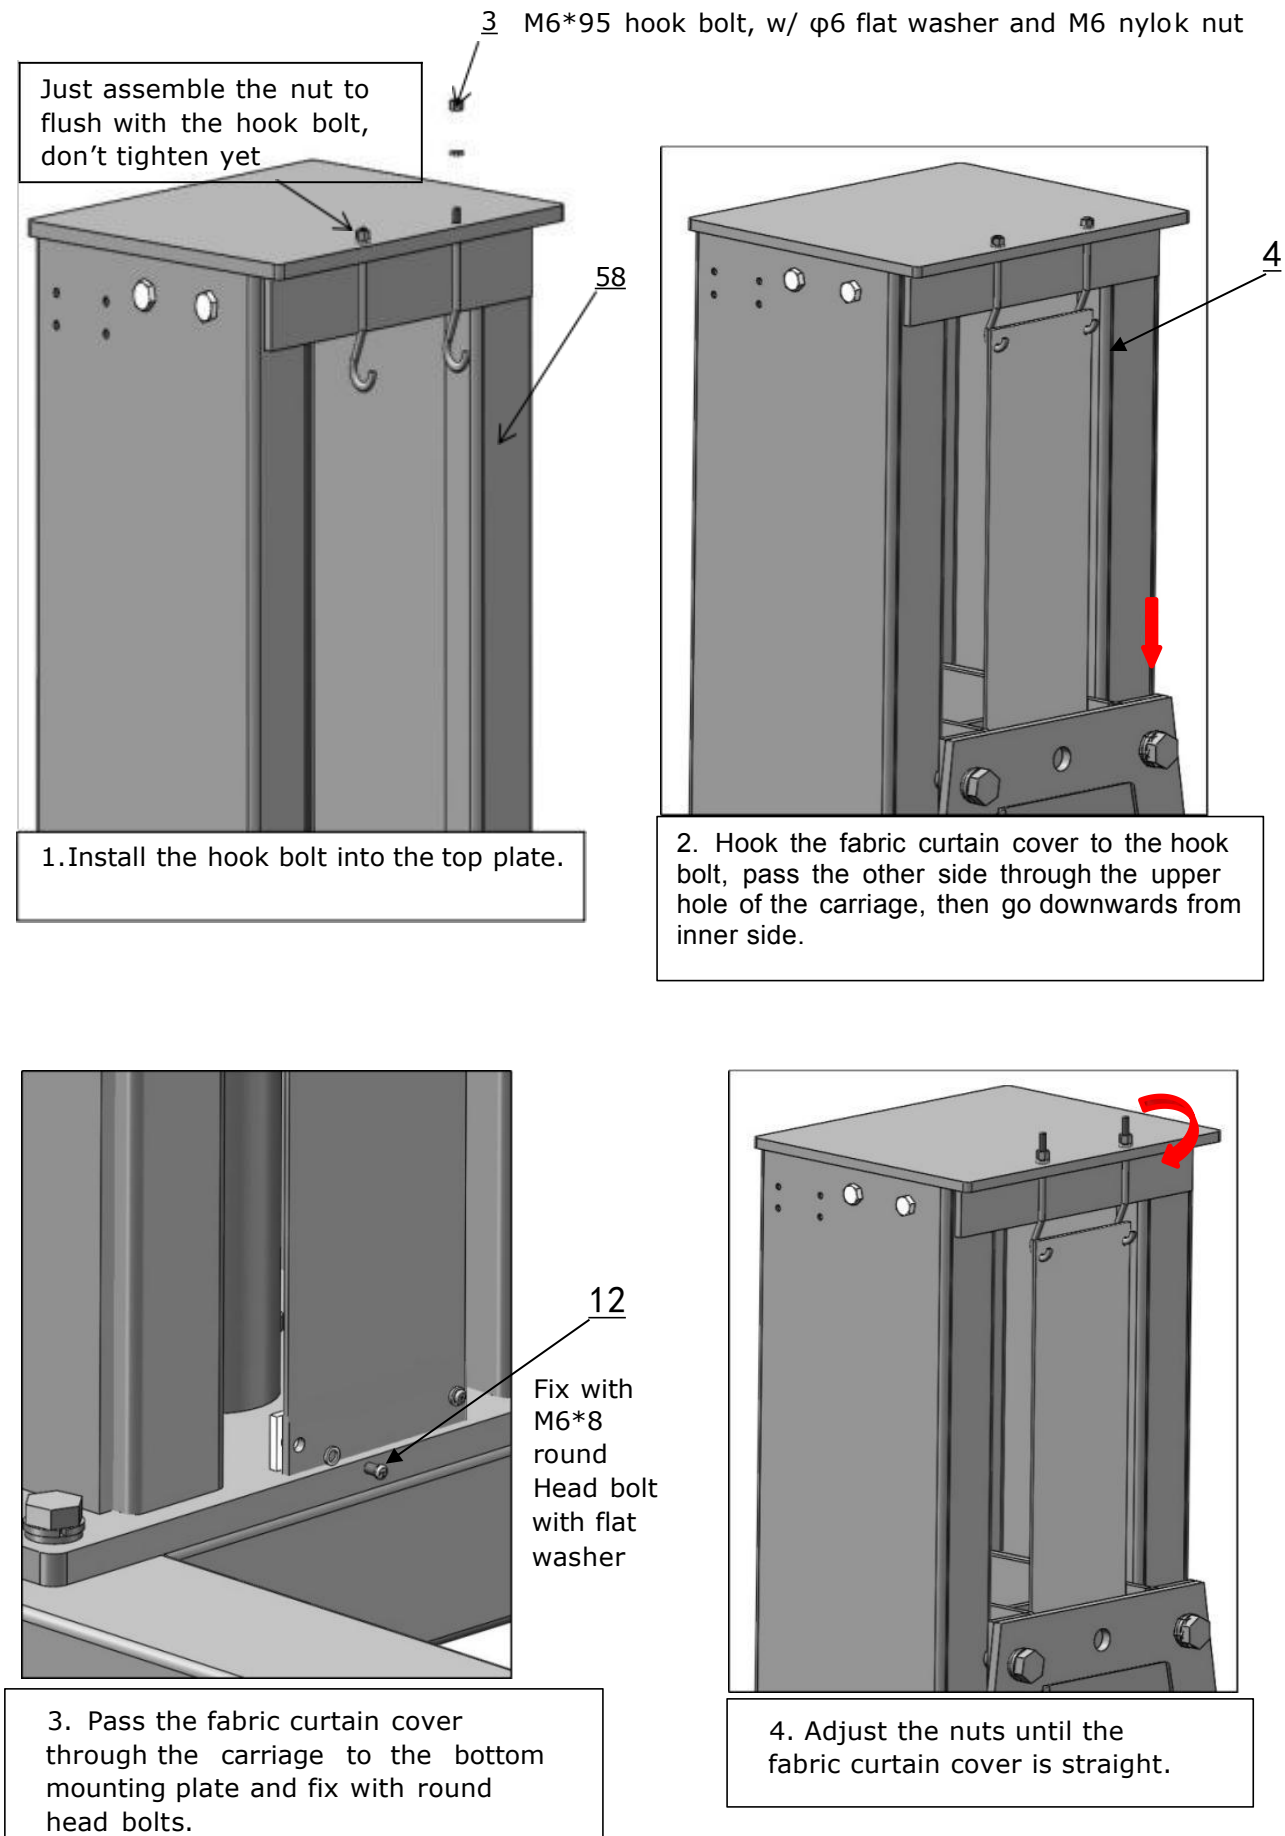

Fig.28
J. Install fabric curtain cover. (See Fig.28)